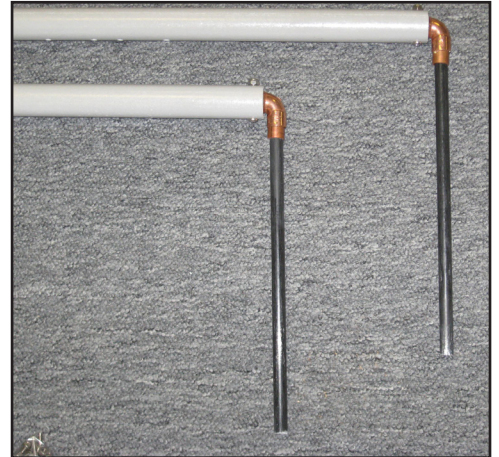

Fig. 14
- Position both Boom End Assemblies as shown in Fig. 14. Insert a 0.5" OD x 12" Rod into the Copper elbow of each Boom End Assembly. **Note that this is a loose fit.**